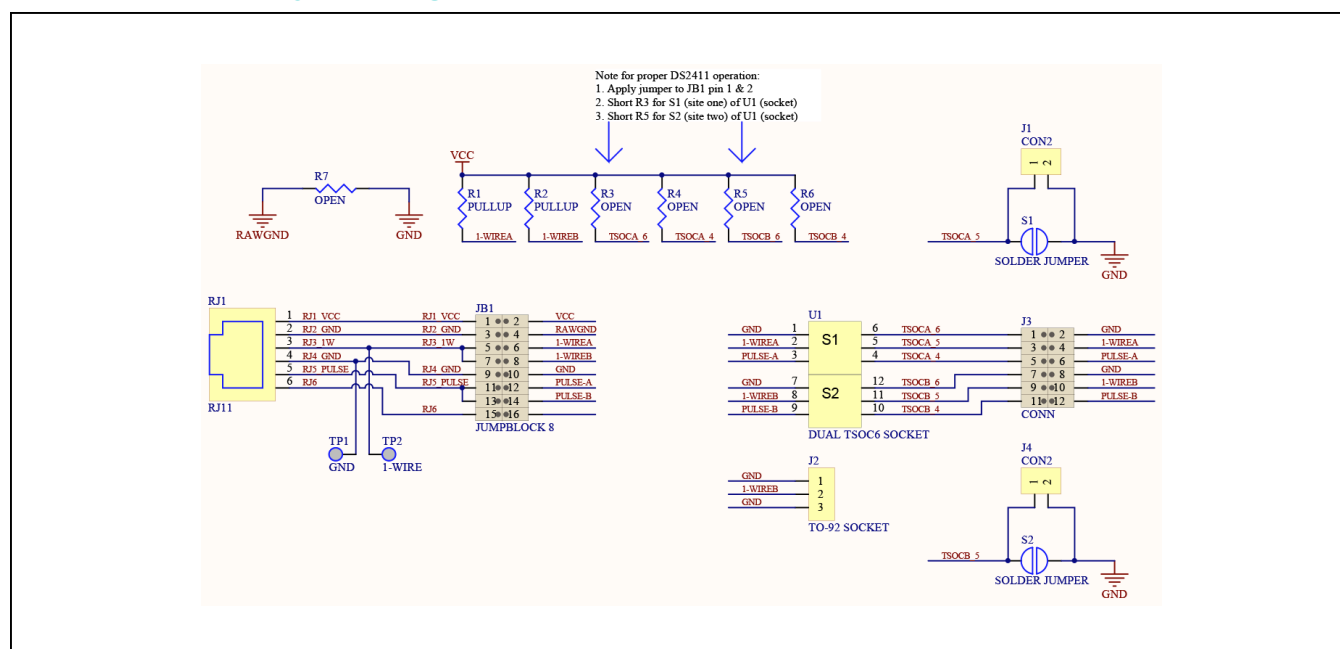

Figure 9. DS9120P+ Socket Board Schematic
- b) Note that when evaluating a DS2413P device, jumpers J1 and J4 are to be populated. For all other 1-Wire slave devices, do not populate J1 or J4 with a jumper. When using the DS2413P in socket S1, the user can populate R3 and R4 with 10kΩ pullups; otherwise, these need to be added externally. P10A can be observed on J3:1 and P10B can be observed on J3:5. See Figure 9 for resistor and pin location.